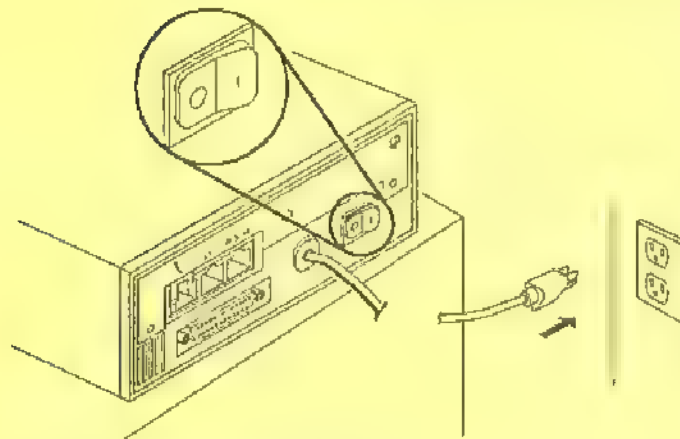

Figure 4-3. Connecting ac Power
**Step 1** Be sure that the power switch located on the modem's rear panel is **off** as shown in Figure 4-3 on page 4-4.